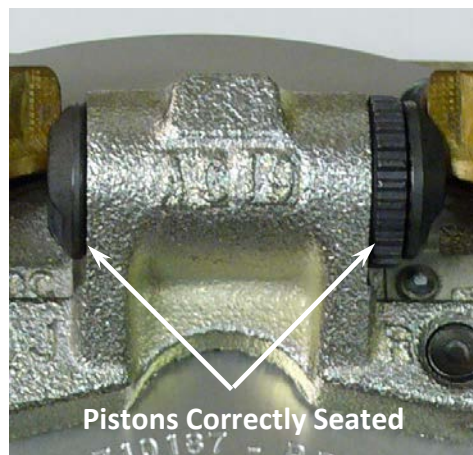

Figure 3 – Park Brake Actuator
9. Slide the park brake shoe over the axle flange and slip the park brake shoe onto the actuator from the bottom up. **NOTE:** Ensure the pistons are seated flush into the actuator and that the parking brake latch is firm and not easily moved once the shoe is installed. If the pistons are not fully seated, slightly move the latch left, and right, and inward until the pistons are seated. See photos Figure 3 for reference on how the pistons should look when seated.